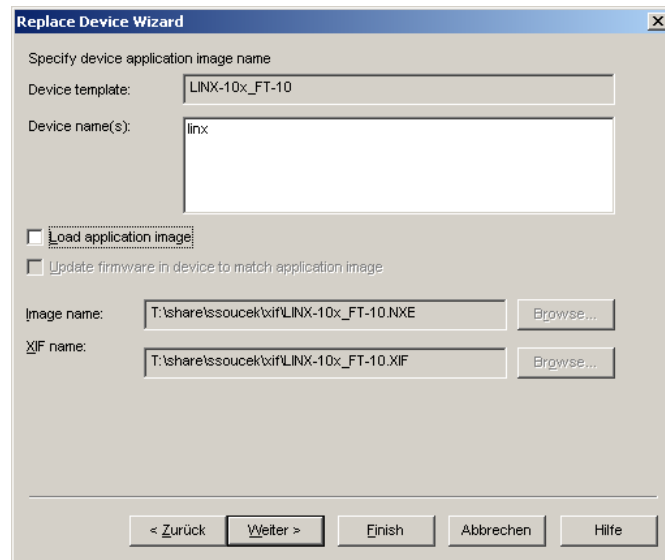

Figure 163: Click Next without loading an application image.
4. In the following window shown in Figure 163 click **Next**.